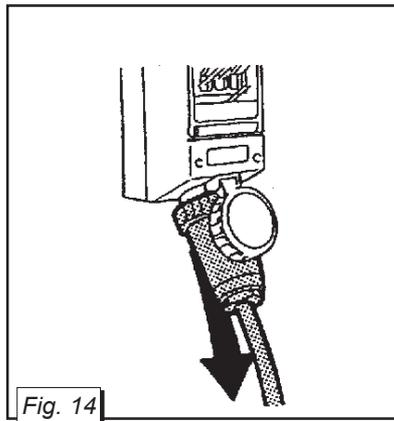

Fig. 14
- Disconnect the power supply cable of the line isolator (see fig. 14).